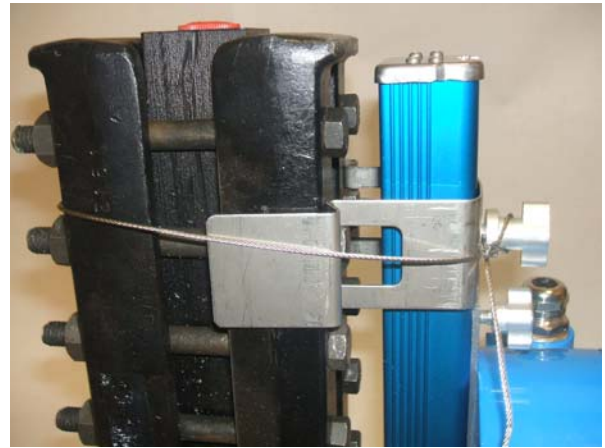

Figure 5
**Step 3:** While holding the top bracket in place, grab the thumb nut end of the cable, wrap around entire gauge and thread onto the stud until the bracket is secure. When wrapping the cable around the gauge, make sure to feed the cable above the bolt as shown above in Figure 5. Snug the cable and secure the thumb nut, but do not fully tighten the thumb nut at this time